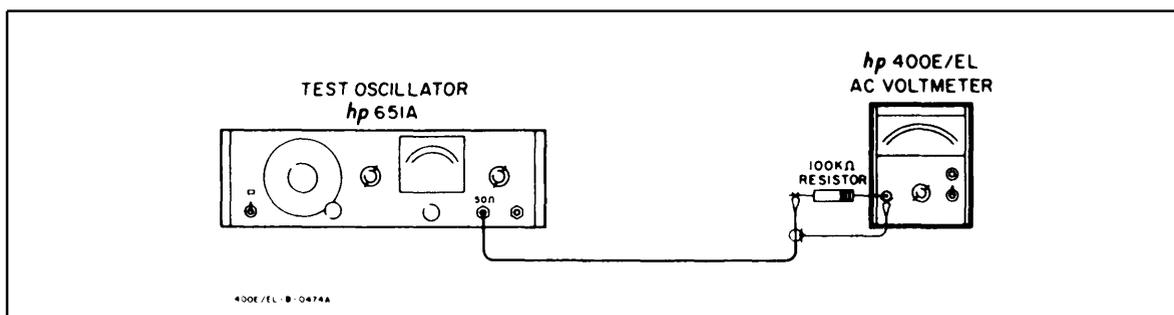

Figure 5-2. Input Impedance Check
- c. Connect a 100 K Ω resistor between the test oscillator output and the 400E/EL input as shown in Figure 5-2.
- a. Connect a test oscillator, a 100 K Ω resistor, and the 400E/EL as shown in Figure 5-2. Insert the resistor lead directly into the BNC connector on the 400E/EL, and connect the ground lead to the outer shield of the 400E/EL input connector. Do not use an adapter, as any adapter will add input capacity.